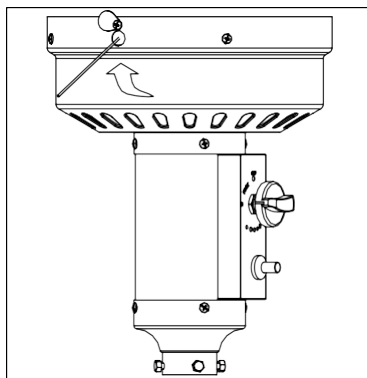

Figure 4
- As you are depressing the control knob, place a long stemmed lighter into the ignition hole on the emitter screen to light the pilot (Figure 4).